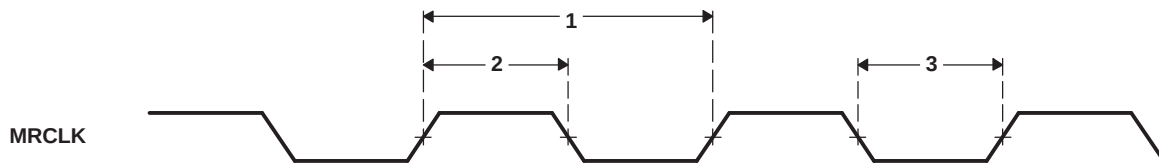

**Figure 6-68. MRCLK Timing (EMAC - Receive)**
**Table 6-94. Timing Requirements for MRCLK (see Figure 6-68)**